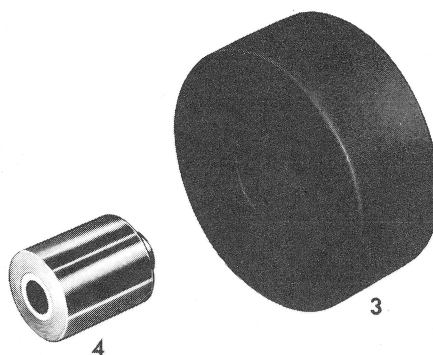

Fig. 2
4 Place new stop rubber (3) on bearing tube (4). Insert bearing tube together with stop rubber into bracket and attach snap ring and hex. nut by means of a hex. screw 8 x 30 (Fig. 2).